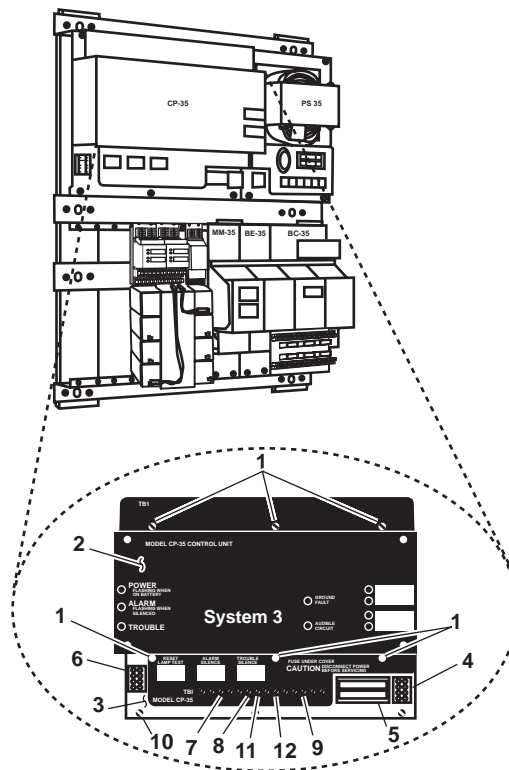

Figure 2. Control Module CP-35 Replacement
2. Remove the screws (figure 2, item 1) that secure the dust cover (figure 2, item 2) to control module CP-35 (figure 2, item 3).
3. Label and disconnect the wiring plugs from connectors P1 (figure 2, item 4), P2 (figure 2, item 5), and P3 (figure 2, item 6).
4. Label and disconnect the wiring from terminals 32 (figure 2, item 7), 35 (figure 2, item 8), and 41 (figure 2, item 9).
5. Remove the eight screws (figure 2, item 10) that secure control module CP-35 (figure 2, item 3), and remove it from the enclosure.
1. Position control module CP-35 (figure 2, item 3) into the enclosure and secure it with the eight screws (figure 2, item 10).
2. Verify the installation of a jumper between terminals 36 (figure 2, item 11) and 39 (figure 2, item 12). Install a jumper if one is not there.
3. Connect the wiring to terminals 32 (figure 2, item 7), 35 (figure 2, item 8), and 41 (figure 2, item 9) using the labels from step 4 of Removal as a guide. Remove the labels.
4. Connect the wiring plugs to connectors P1 (figure 2, item 4), P2 (figure 2, item 5), and P3 (figure 2, item 6).
5. Install the dust cover (figure 2, item 2), and secure it with the screws (figure 2, item 1).